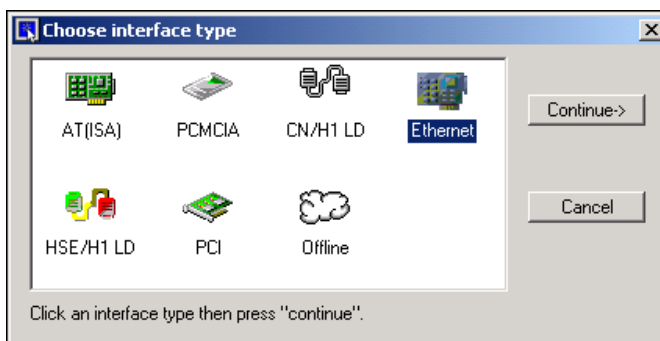

Figure 3-1. Choosing an Interface Type
3. Select **Start»Programs»National Instruments»NI-FBUS»NI-FBUS Interface Configuration Utility** to start the NI-FBUS Interface Configuration Utility. Click **Add Interface**. The dialog box in Figure 3-1 appears.